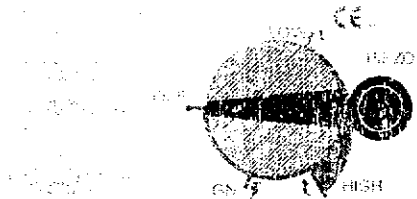

Fig. 14 – Off position.
1. From any heat setting, depress and turn the knob in a clockwise direction through the "HIGH" setting (a click will be felt as the knob passes through) to the "OFF" position (Fig. 14).